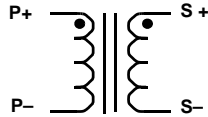

FIGURE 18A. FULL BRIDGE AND CURRENT DOUBLER
**Self-Driven Rectifiers** - For low output voltage applications, both FETs can be driven by the voltage across the secondary winding. This can work with all kinds of main transformer configurations as shown in Figures 18A-D.